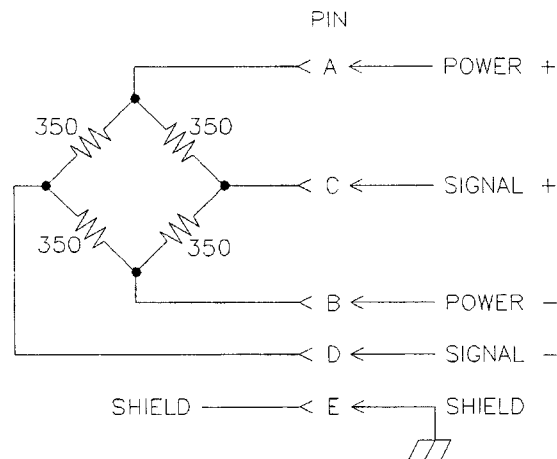

Figure 4. - Sensor Bridge Configuration
2. SENSOR INPUT: Attach a D-M-E pressure sensor to this connector. Sensor connections are shown in figure 4.